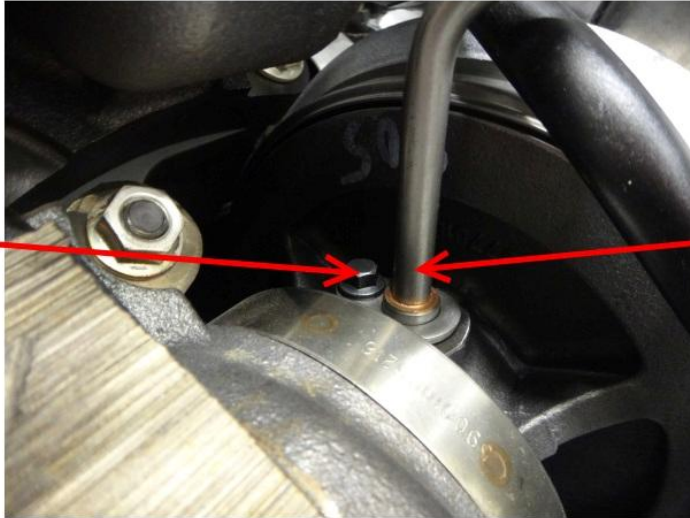

Figure 12: Oil Supply Tube to Low Pressure Turbocharger
29. Remove bolt (**Figure 12**, Item 1) from oil supply tube (**Figure 12**, Item 2), and discard bolt.